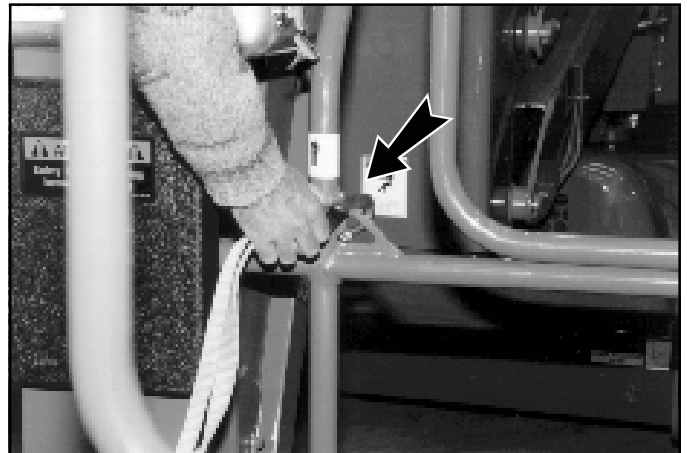

Figure 2-3: Typical Fall Restraint Anchorage Point
**Always** wear an approved fall restraint properly attached to designated platform anchorage point when driving or elevating the machine (see Figure 2-3).